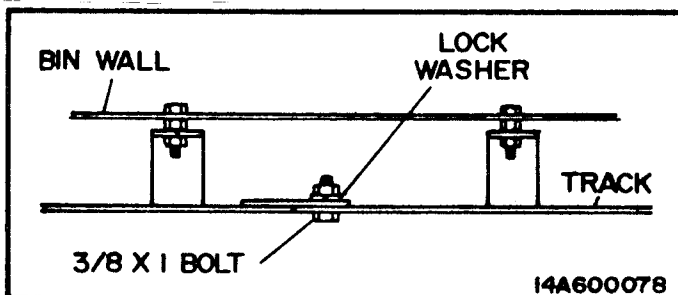

FIG. 3 - TRACK SPLICE.
4. Join sections together with 3/8" x 1" bolt, lock washer, and nut. Do not tighten at this time. MAKE SURE THAT THESE BOLTS ARE MOUNTED POINTING OUTWARD TOWARD BIN WALL TO AVOID OBSTRUCTING CROSSTUBE. Fig. 3.
- Mount second segment of track in place. Join sections together with 3/8" x 1" bolt, lockwasher, and nut. Tighten at this time. MAKE SURE THAT THESE BOLTS ARE MOUNTED POINTING OUTWARD TOWARD BIN WALL TO AVOID OBSTRUCTING CROSSTUBE. Fig. 3